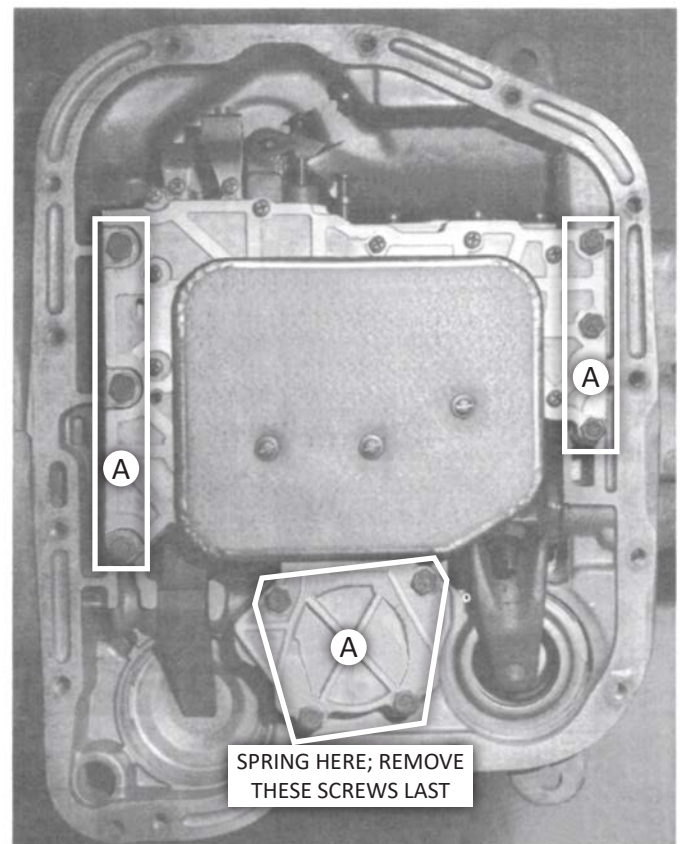

FIG. 2
- 3. Remove the valve body from the transmission (10 hex screws "A", Fig. 2).**
19. Assemble the valve body to the transmission (10 screws, Fig. 2). First run the screws in finger-tight, and verify the valve body sits flat against the case.